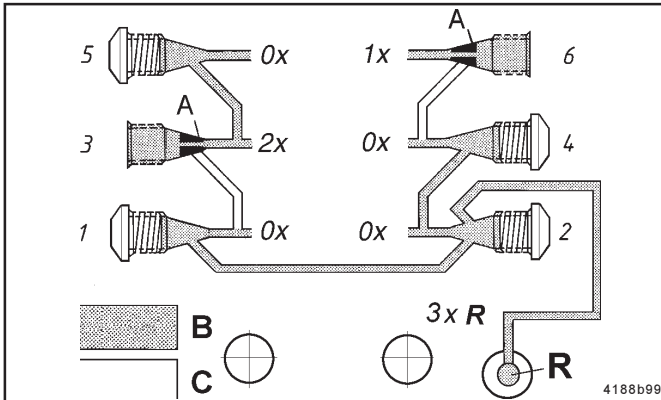

Fig. 4 - Internal feedback of supplied lubricant, only on backside mounted SSV divider blocks
- To achieve this automatically, **outlet 2 has to be closed with a closure plug** (see Fig. 4). Lubricant quantities of pair and impair outlets are returnable via the connection of outlets 1 and 2.
- For returning, always start with the outlets with the lowest outlet numbers, i.e. 2, 4, 6... or 1, 3, 5... **plus outlet 2**. As shown in Fig. 4, the lubricant from outlets 1, 2 and 4 (3xR) will be internally returned to the reservoir.